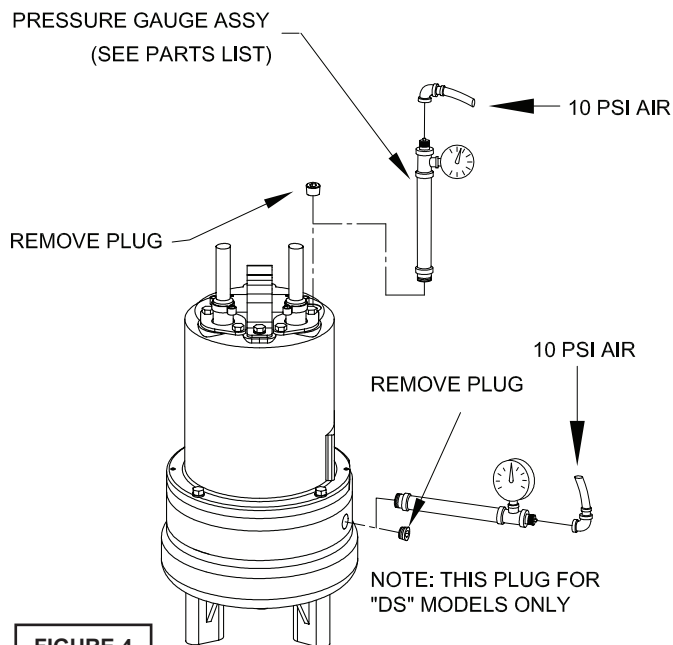

FIGURE 4
Pumps that have had the oil drained from the Motor Housing - Apply pipe sealant to pressure gauge assembly and tighten into pipe plug hole (See Figure 4). Pressurize motor housing to 10 P.S.I. Use soap solution around the
sealed areas and inspect joints for "air bubbles". If, after five minutes, the pressure is still holding constant, and no "bubbles" are observed, slowly bleed the pressure and remove the gauge assembly. Replace oil as described in section F-1.4. If the pressure does not hold, then the leak must be located and repaired. **Pumps that have NOT had the oil drained from the Motor Housing** - The pressure test may be done with the oil at its normal level. Remove pipe plug (39) from motor housing (6). Apply pipe sealant to pressure gauge assembly and tighten into hole (see Figure 4). Pressurize motor housing to 10 P.S.I. Use soap solution around the sealed areas above the oil level and inspect joints for "air bubbles". For sealed areas below the oil level, leaks will seep oil.